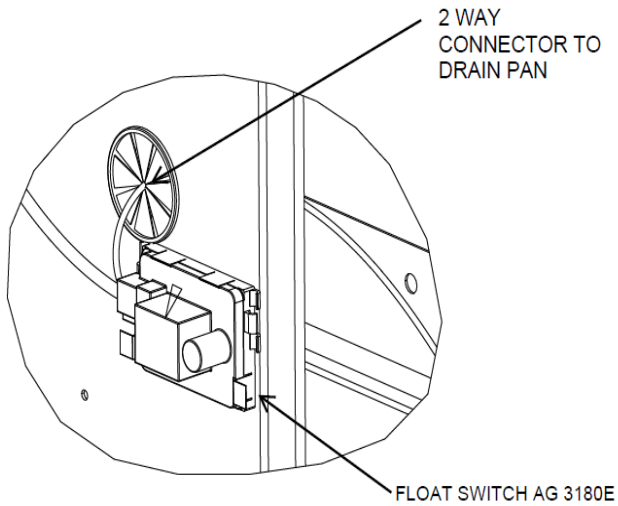

FIGURE 21
- Place the AG-3180 inside the control box. Use the adhesive strip to attach the bracket to the control box as shown in Figure 21. Insert the 2 way connector from the module through the bottom bushing (1.375" grommet) towards the drain pan.